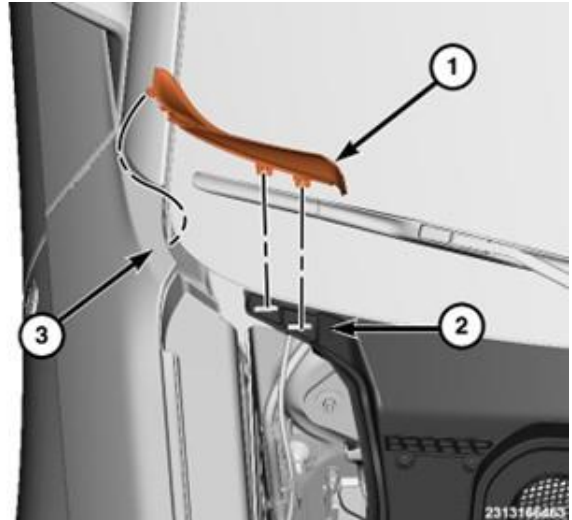

Figure 27 – Cowl Trim
- d) Using a trim stick, release the clips from under the rear edge of the front fender (3) and the cowl trim (2) (Figure 27).
- e) Separate the cowl end caps (1) (Figure 27).
- h. Cowl trim (1) (Figure 27).